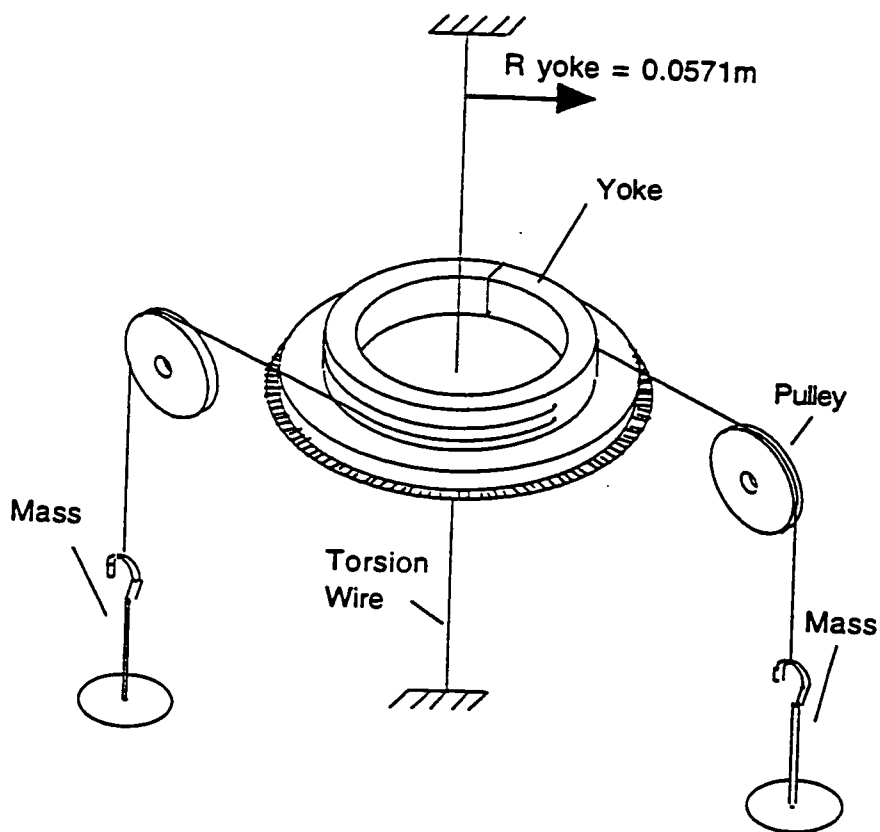

Figure 4: Part V – measuring  $\kappa$  with the yoke
1. Mount the yoke with the two strings on it over the disk of your torsion pendulum as shown in Figure 4. Wrap the strings around the yoke and then tangentially over the two pulleys. This *must* be set up correctly, else the resulting torques will not match those you calculate in Table 2.
3. A platform is attached to a vertically mounted stiff wire. Two strings are wrapped around a yoke of radius  $R_{yoke} = 0.0571$  m and are hung over two pulleys as shown in Figure 4. Various masses are hung on the ends of the strings and the stationary angular position of the platform is recorded for each mass as given in Table 1. You will have to carry extra digits and use scientific notation to calculate the final column.